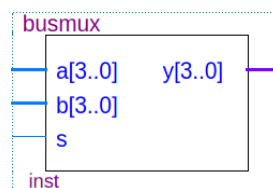

Figure 1.6: Bus multiplexer symbol.
4. Convert the module into symbol file. Call it **busmux4bit.bsf**. It should like Fig. 1.6.